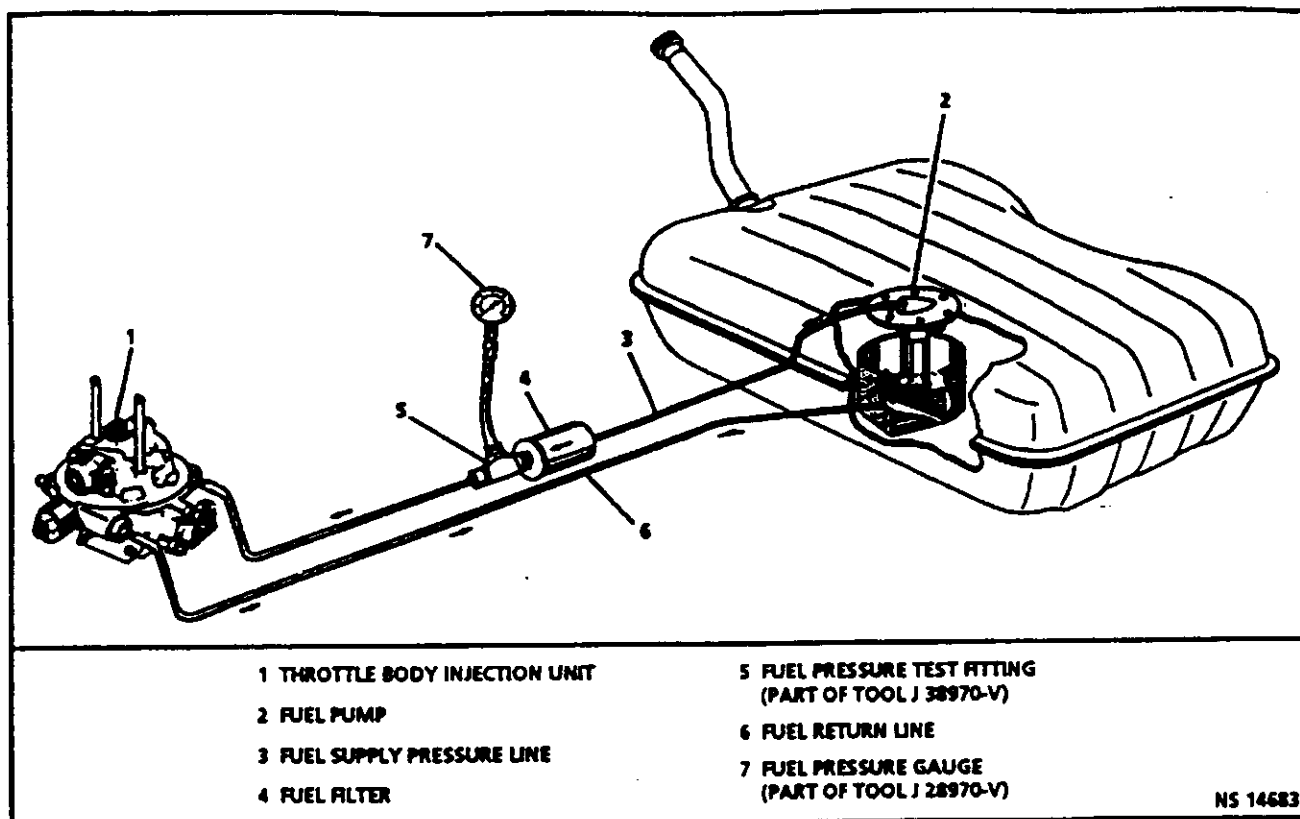

Figure 3.2-6 Fuel Pressure Test
2. Install fuel pressure gauge onto fuel pressure test fitting making certain the connection is secure to avoid leaking fuel (Figures 3.2-6 and 3.2-7).